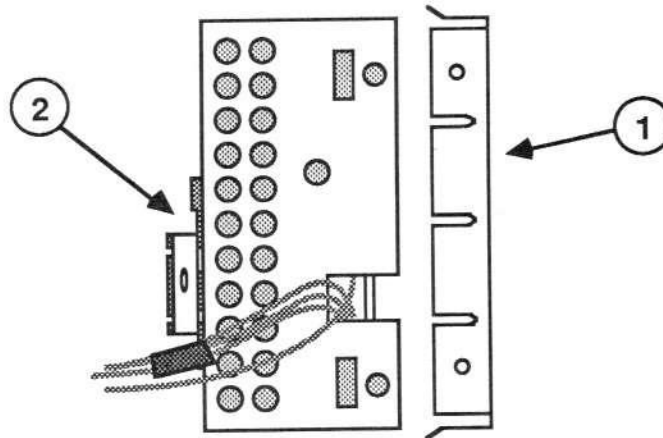

FIGURE 13
1. Replace the back cover (Figure 13, #1) on the video board "C."
Tighten the screw (Figure 13, #2) on the ring clamp just enough to keep the assembly from slipping.